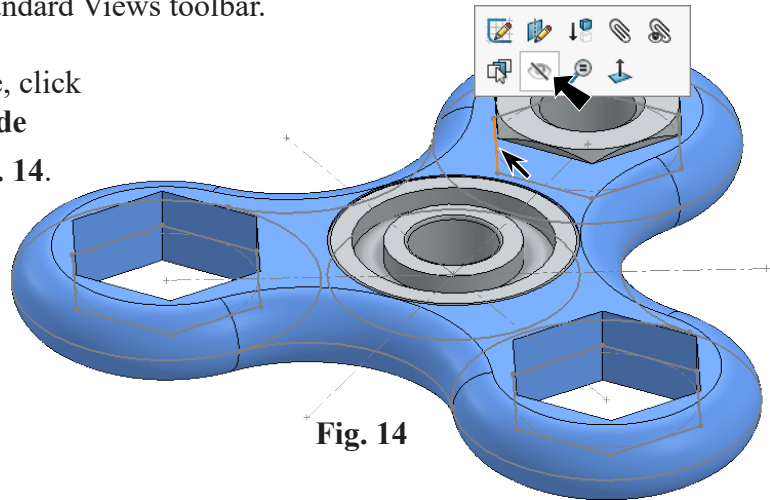

Fig. 14
Step 13. **Hide Spinner Sketch1**. To hide, click Sketch1 in graphics area and **Hide**  on the context toolbar, **Fig. 14**.